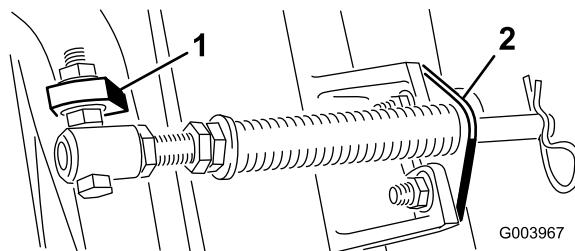

Figure 5
- Mount the rod bracket to the cutting unit tabs with the carriage bolts and nuts (Figure 5).